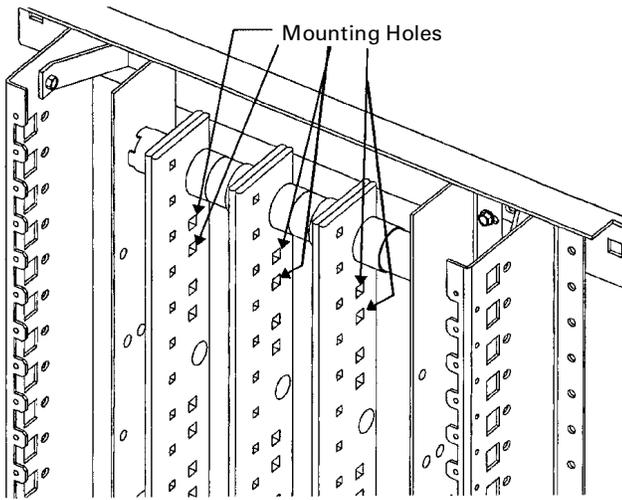

Figure 4. Bus bar mounting holes.
3. **Align the mounting holes.** Align the lug tang mounting holes with the first and second bus holes from the box end stamped LINE on the rear row of holes, as shown in Figure 4.